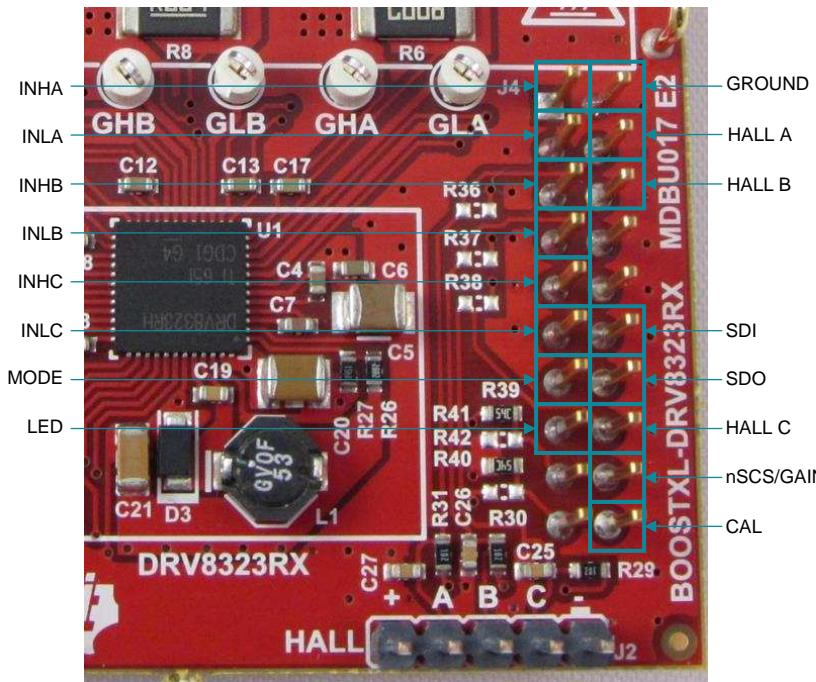

**Figure 3. Connections**
**Figure 3** shows the power connector and motor phase connector. A supply voltage ranging from 6 to 54 V from a battery or a DC voltage source is connected to the voltage supply pins. Three phases of the BLDC motor are connected to the three-phase motor socket provided on the BOOSTXL-DRV8323Rx.